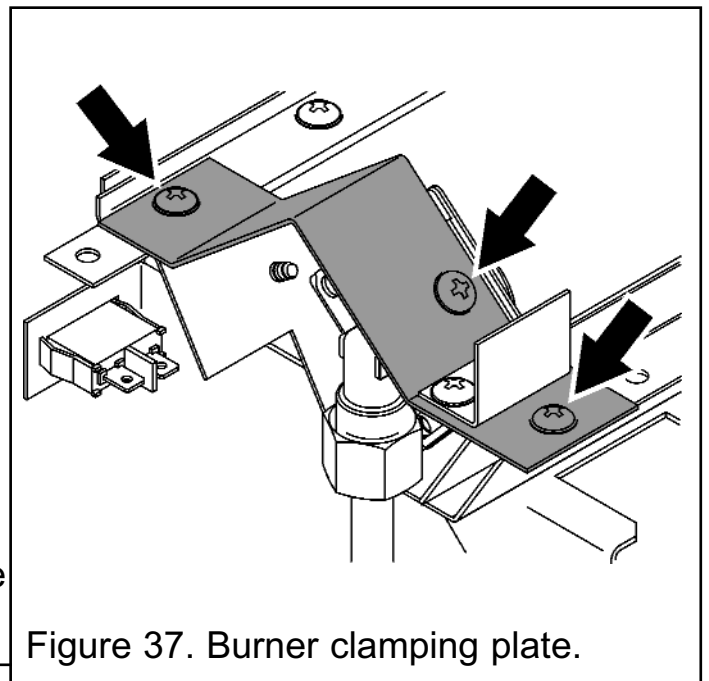

Figure 37. Burner clamping plate.
2. Unscrew and remove the burner clamping plate from the upper right hand side of the burner. Remove all three screws for ease (See figure 37).